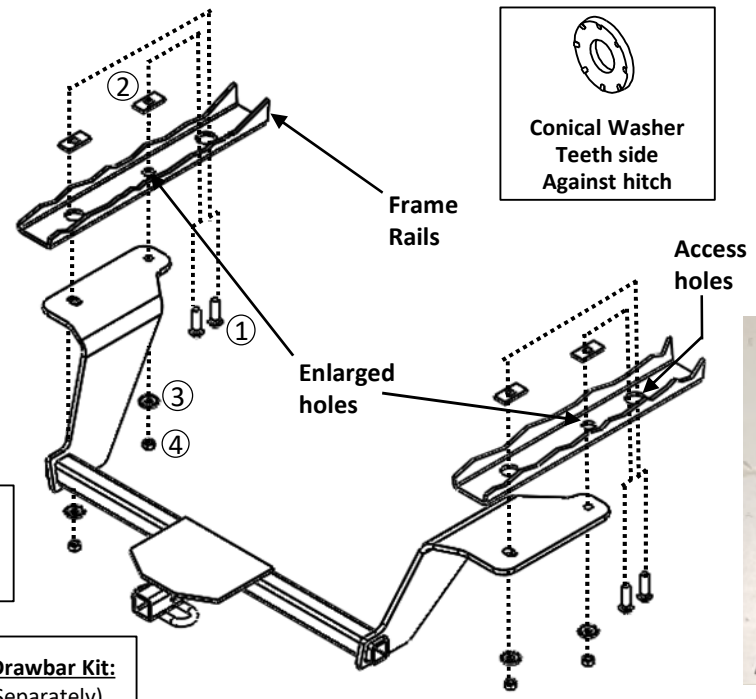

Figure 2
- Remove underbody panel** - Using a flat head screwdriver and 10 mm socket, remove (4) rivets, (2) nuts respectively from driver side underbody panel. Remove the panel.
- Lower exhaust** - Using an exhaust hanger removal tool, lower muffler by removing (2) rearmost rubber hangers. A spray of lubricant or soapy water on rubber hangers makes them slide off metal pins more easily. **NOTE: Be sure that exhaust is properly supported before removing rubber hangers.**
- Remove heat shield** - Using a 10 mm socket, remove (3) nuts from exhaust heat shield. Remove the heat shield.
- Enlarge holes** - Using a flat head screwdriver, remove rubber plug and cover from rearward attachment holes and access holes, both sides. Using a grinder, enlarge the forward attachment hole diameter to 1/2" on both sides, see Figure 2.